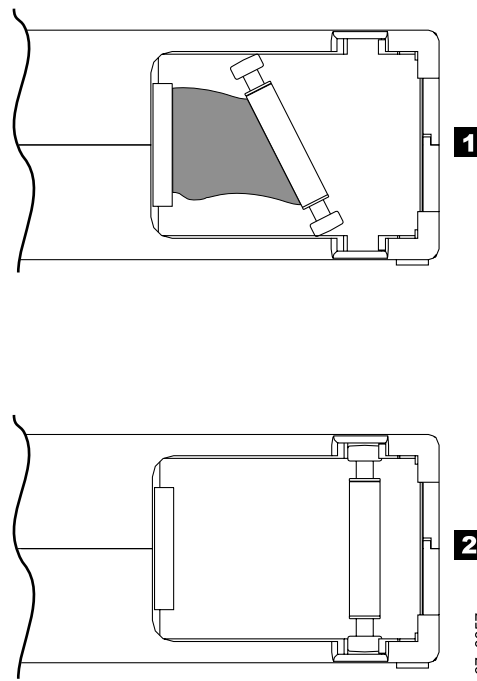
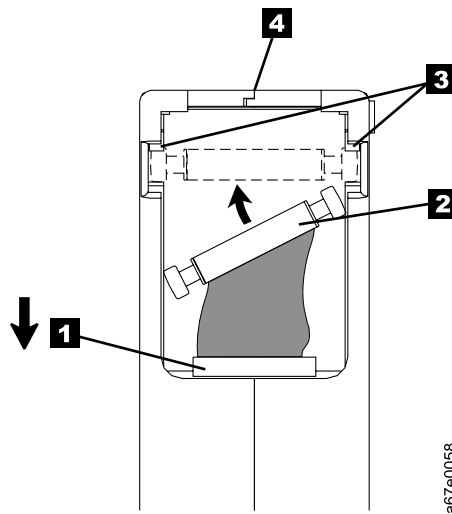

Figure 15. Leader pin in the incorrect and correct positions. The cartridge door is open and the leader pin is visible inside the cartridge.
Figure 16. Placing the dislodged leader pin into the correct position. The cartridge door is open to show the leader pin.
- Do not drop the cartridge. If the cartridge drops, slide the cartridge door back and ensure that the leader pin is properly seated in the pin-retaining spring clips (see Figure 15 on page 41). Inspect the rear of the cartridge (the part that you load first into the tape load compartment) and ensure that there are no gaps in the seam of the cartridge case (see **4** in Figure 16 on page 42). If the leader pin has become dislodged or if there are gaps in the seam of the cartridge case, go to “Repositioning or Reattaching a Leader Pin” on page 41.
A leader pin that is improperly seated inside a cartridge can interfere with the operation of the autoloader. Figure 15 shows a leader pin in the incorrect **1** and correct **2** positions.
1. Slide open the cartridge door (**1** in Figure 16) and locate the leader pin **2** (you may need to shake the cartridge gently to roll the pin toward the door).